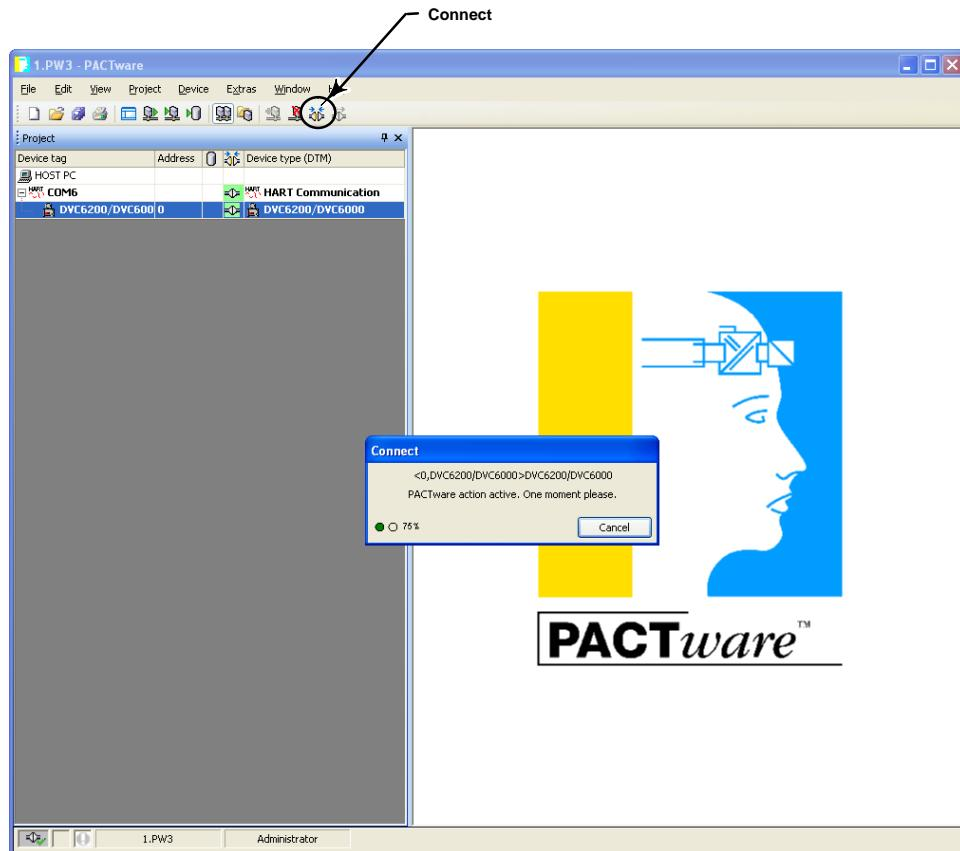

Figure 4-5. Connect the DeviceDTM
Step 5: With the DeviceDTM highlighted, select Connect as shown in figure 4-5.